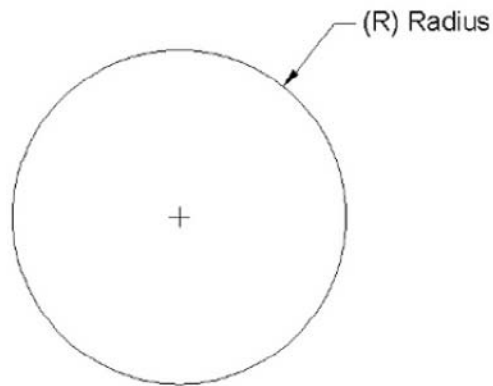

Figure 6.5 – Radius dimension
- **Radius Dimension** – This is a dimension that measures the radius of a circle or an arc (Figure 6.5).
Create a small to medium size circle as seen in Figure 6.5. Then begin the radius dimension command via any of the above methods.